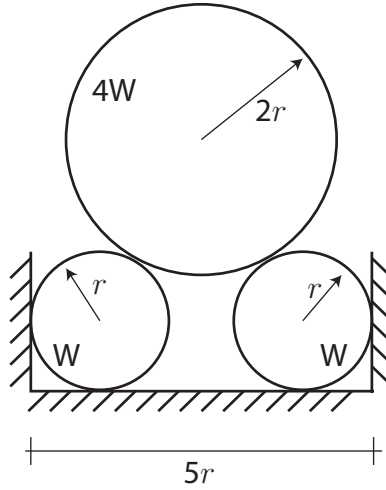

Figure 4: Problem 4.
4. A large cylinder with weight $4W$ rests upon two smaller cylinders with weight W as shown in Fig. 4. Assume that all the surfaces are smooth and frictionless so that the contact forces are all orthogonal to the contact surfaces. Further assume that the cylinders are homogeneous so that their weight can be assumed to act at their centers